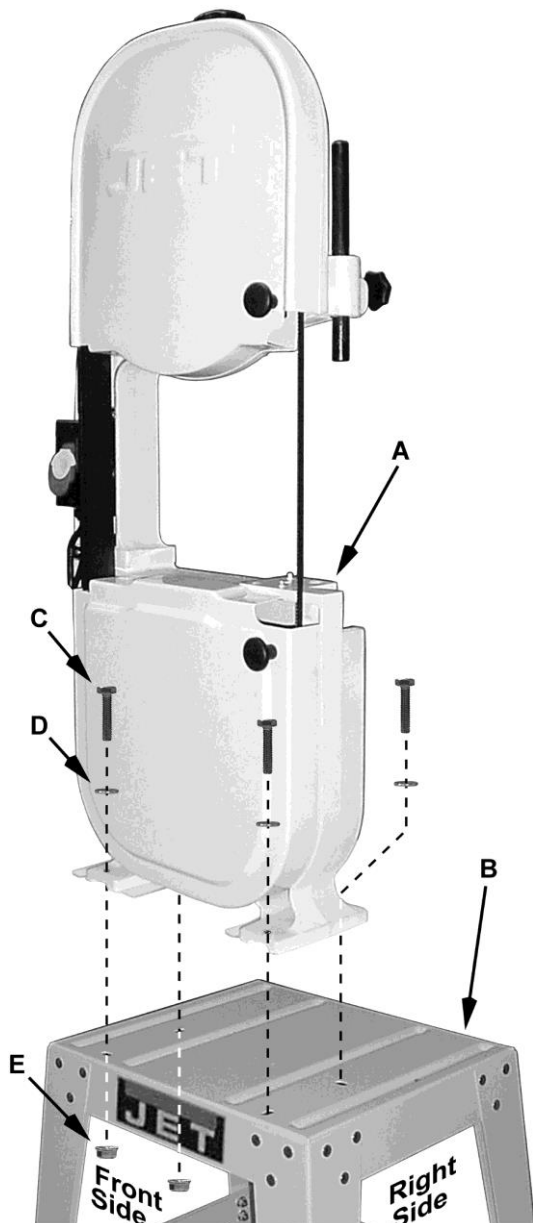

Figure 2
Referring to Figure 2:
5. Standing on the *right side* of the band saw (Figure 2), pull the motor towards you.